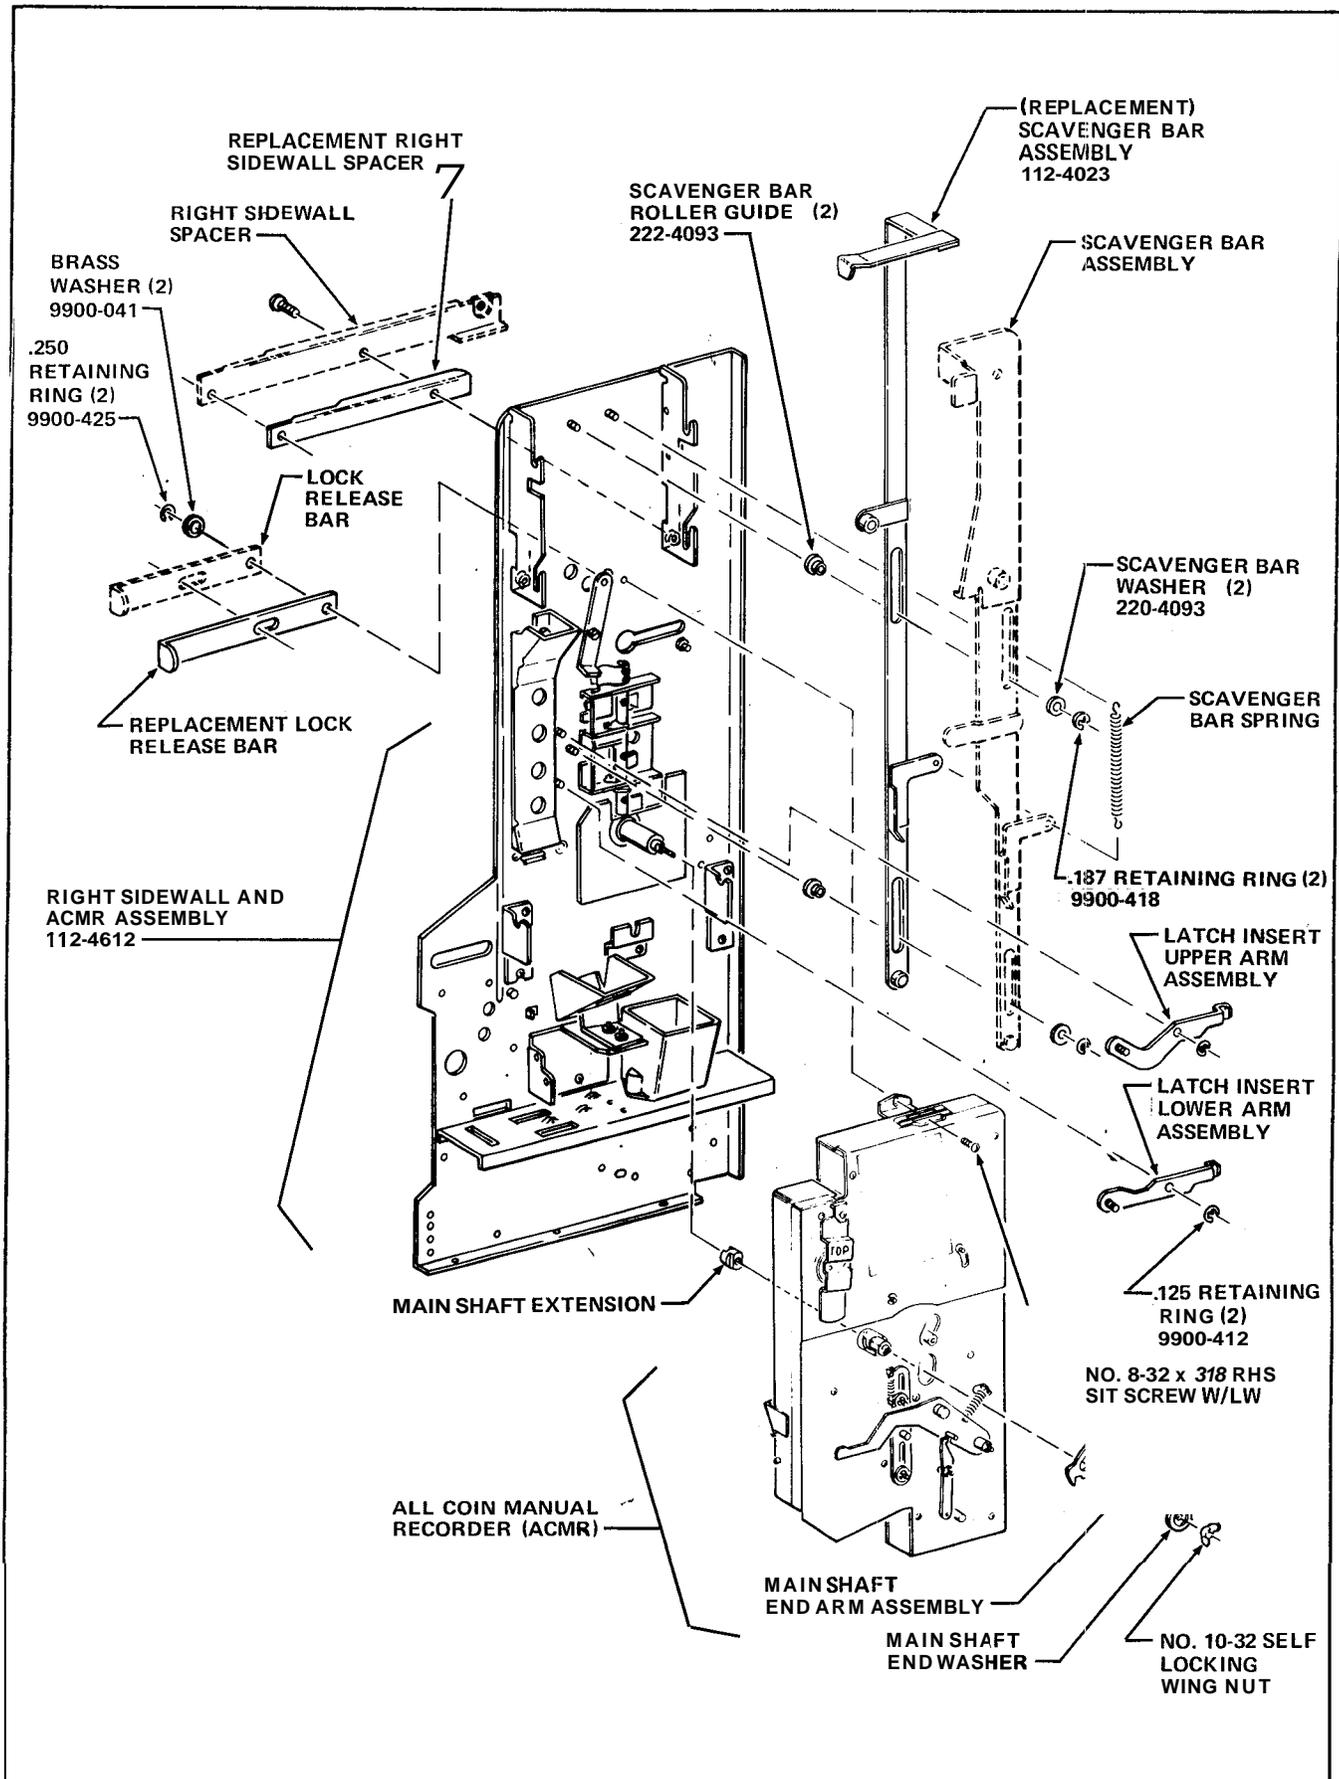

FIGURE 6-3
1. Remove a No.8-32 x 3/8 RHS Self Tapping Screw with Lockwasher attaching the top of the All Coin Manual Recorder (ACMR) to the Right Sidewall of the replacement Right Sidewall and ACMR Assembly, Part Number 1124612, included in the Kit. Retain the Screw for later use. See Figure 6-3.
2. Remove a No.10-32 Self Locking Wing Nut, Main Shaft End Washer, Main Shaft End Arm Assembly and All Coin Manual Recorder from the Right Sidewall. Retain all parts for later use. See Figure 6-3.
3. Remove the Main Shaft Extension from the Right Sidewall. Retain the Main Shaft Extension for later use. See Figure 6-3.
4. Remove two Retaining Rings, two Washers, and the Lock Release Bar from the Right Sidewall. See Figure 6-3.
5. Install the Lock Release Bar, removed in the Parts Removal Procedure, on the Right Sidewall using two 9/16 x .260 x .040 Brass Washers, Part Number 9900-041, and two .250 Retaining Rings, Part Number 9900-425, both included in the Kit. See Figure 6-3.
6. Remove two No.8-32 Nuts with Lockwashers, two Spacer Rollers, two No.8-32 x 5/8 RHS Screws and the Right Sidewall Spacer from the Right Sidewall. Retain the attaching hardware. See Figure 6-3.
7. Install the Right Sidewall Spacer removed in the Parts Removal Procedure on the Right Sidewall and attach with the flange positioned on top using the hardware removed in the preceding step. See Figure 6-3.
8. Remove a Retaining Ring and the Latch Insert Upper Arm Assembly from the Right Sidewall. Retain the Arm Assembly. See Figure 6-3.
9. Remove a Retaining Ring and the Latch Insert Lower Arm Assembly from the Right Sidewall. Retain the Arm Assembly. See Figure 6-3.
10. Remove the end of the Scavenger Bar Spring attached to the Scavenger Bar on the Right Sidewall. See Figure 6-3.
11. Remove two Retain Rings, two Scavenger Bar Washers, Scavenger Bar Assembly and two Scavenger Bar Roller Guides from the Right Sidewall. See Figure 6-3.
12. Install two Scavenger Bar Roller Guides, Part Number 2224093, included in the Kit, on two studs of the replacement Right Sidewall. Make sure the wide end of the Roller Guides rest against the Sidewall. See Figure 6-3.
13. Install the Scavenger Bar Assembly, Part Number 1124023, included in the Kit, by fitting the slots of the Scavenger Bar Assembly over the Scavenger Bar Roller Guides. Make sure the arm on top of the Scavenger Bar Assembly points towards the front of the Right Sidewall. See Figure 6-3.
14. Attach the Scavenger Bar Assembly to the Right Sidewall using two Scavenger Bar Washers, Part Number 2204093 and two .187 Retaining Rings, Part Number 9900-418, both included in the Kit. See Figure 6-3.
15. Attach the Scavenger Bar Spring to the Hole in the Angle Arm of the Scavenger Bar Assembly. See Figure 6-3.
16. Install the Latch Insert Upper Arm Assembly removed in Step B-8 on the Right Sidewall as shown in Figure 6-3 and attach with a .125 Retaining Ring, Part Number 9900-412, included in the Kit. See Figure 6-3.
17. Install the Latch Insert Arm Lower Assembly removed in Step B-9 on the Right Sidewall as shown in Figure 6-3 and attach with a .125 Retaining Ring, Part Number 9900-412, included in the Kit. See Figure 6-3.